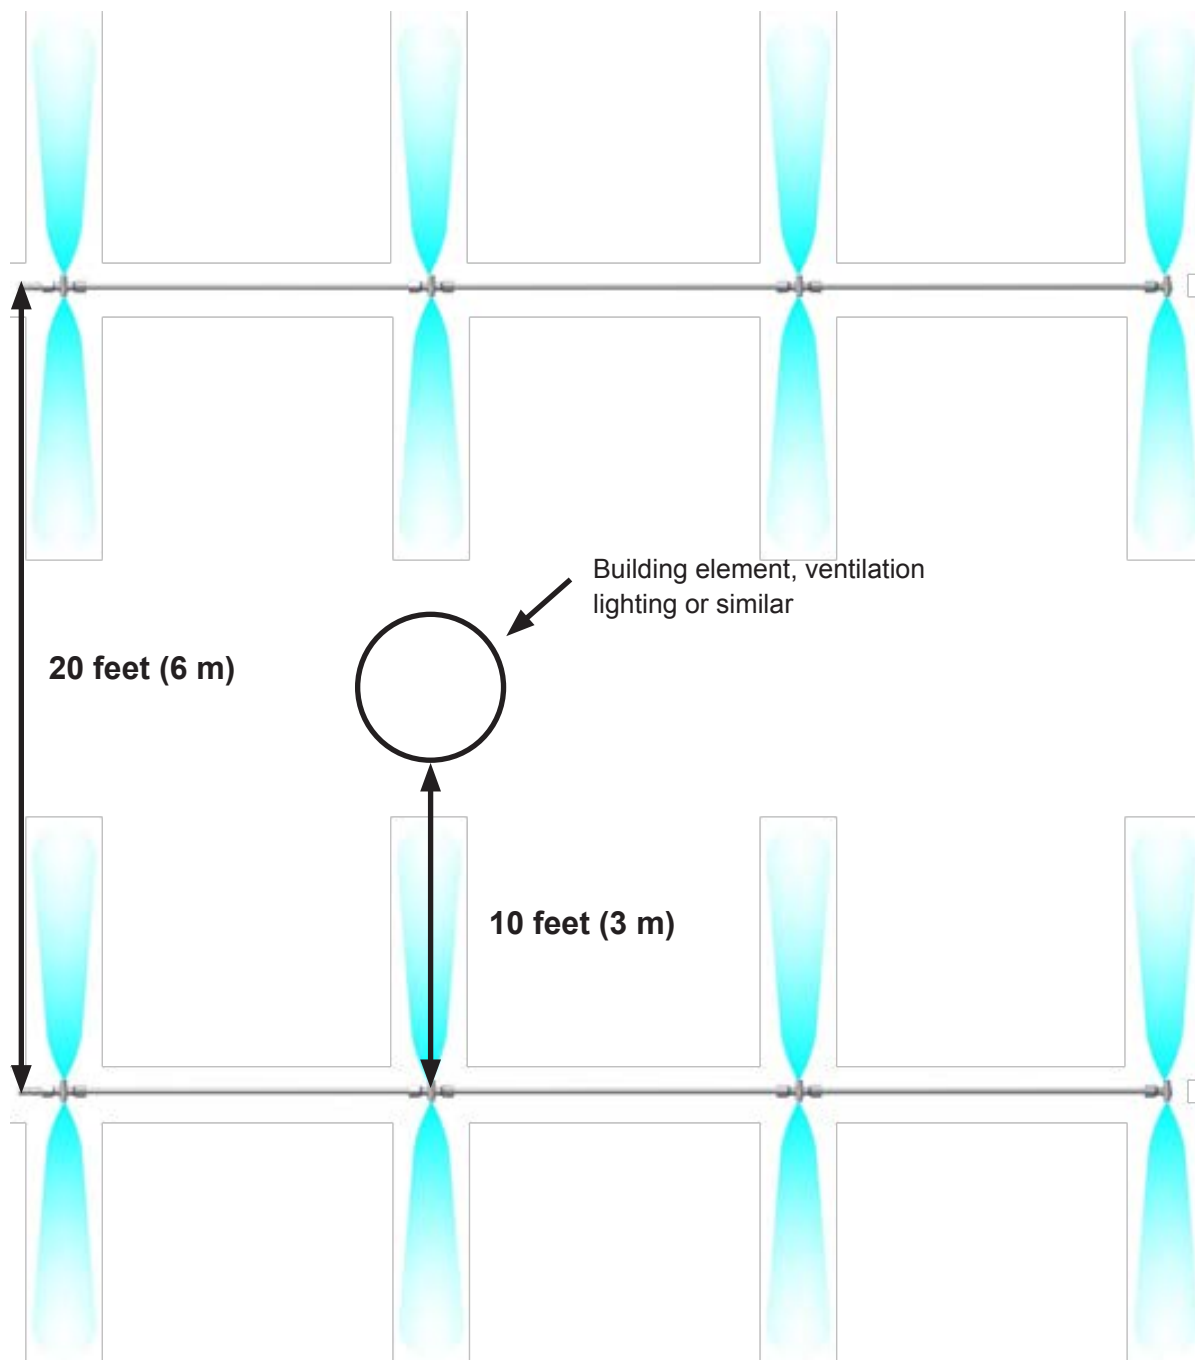

Figure 27: Distances between modules
Prior to mounting the Condair ML Flex humidification units, ensure that all hose layouts, distances between heads and atomization clearances have been considered and adhered to, as per Figure 27.
- Figure 27 shows the recommended clearances, of the expansion of the atomization stream, and the clearances that have to be maintained. These are ideal and recommended capacities using ML nozzles under standard conditions. Different weather, climate and indoor conditions can alter the spread and distance of the mist
- As shown in Figure 27, when the nozzles and humidification heads are placed one opposite the other, make sure that a minimum distance of 20 feet (6 m) is adhered to. This will avoid the streams to condensate each other.